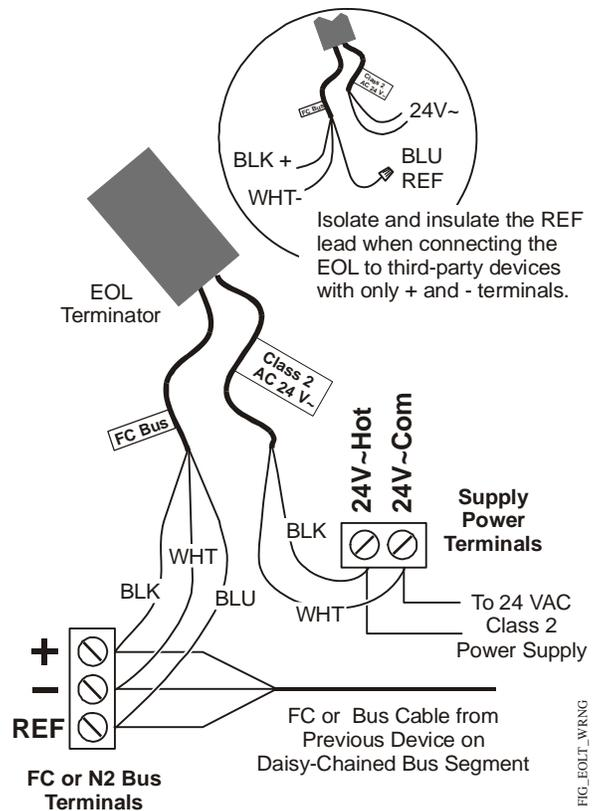

Figure 3: Wiring the EOL Terminator to a Bus-Terminating Device
- When the third-party (terminating) device has only the + and - terminals (no REF or COM), isolate and insulate the blue REF lead on the EOL (Figure 3).
Connect the EOL FC Bus leads to the appropriate FC or N2 Bus terminals on the bus terminating device (Figure 3).
Connect the EOL 24 VAC power supply leads to a dedicated or surged protected 24 VAC, Class 2 power supply (Figure 3).